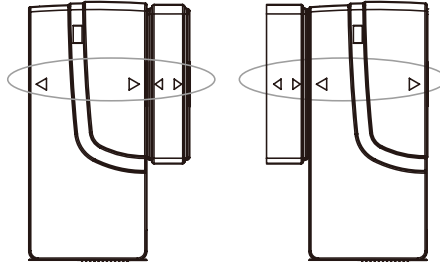

Fig. 2
- Ensure the >< marks on the sides of the transmitter and magnet match up as shown in Fig.2.